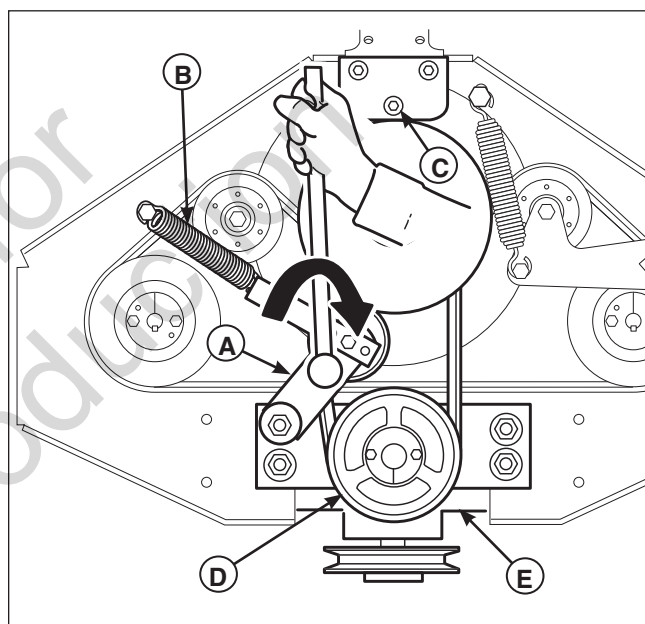

Figure 47. Clutch Belt Removal & Replacement
2. Carefully rotate the idler arm with the breaker bar CLOCKWISE (see Figure 47) and install the belts into the grooves of the gearbox drive pulley.
4. Reinstall the clutch anchor pad to the clutch with the hardware (C) previously removed. Make sure the hardware is in the same order as it was before being removed.